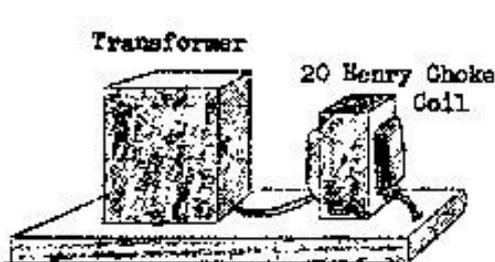

FIGURE 25.
In Figure 25, showing part of a power supply unit, there is a “filter choke” having an inductance of 20 henrys. To calculate the reactance of this choke at a frequency of 120 cycles we will use the formula (3) and fill in the values as follows:
The resistance of a choke such as shown in Figure 25 may be between 200 and 300 Ohms. That would be its resistance to direct current and of course it offers the same amount of resistance to alternating current. Yet, in addition to the fairly low resistance, we find that this choke has a reactance to alternating current of 15,000 ohms. Direct current would flow through this choke quite easily but alternating current would have a hard time getting through because of the great reactance.